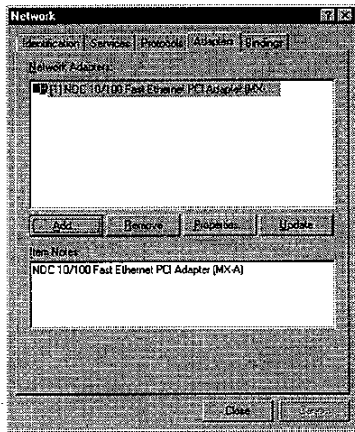

Figure 32. Network
step11. The "NDC 10/100 Fast Ethernet PCI Adapter (MX-A)" will now be shown on the *Adapters* card in the *Network* configuration box (**Figure 32**)